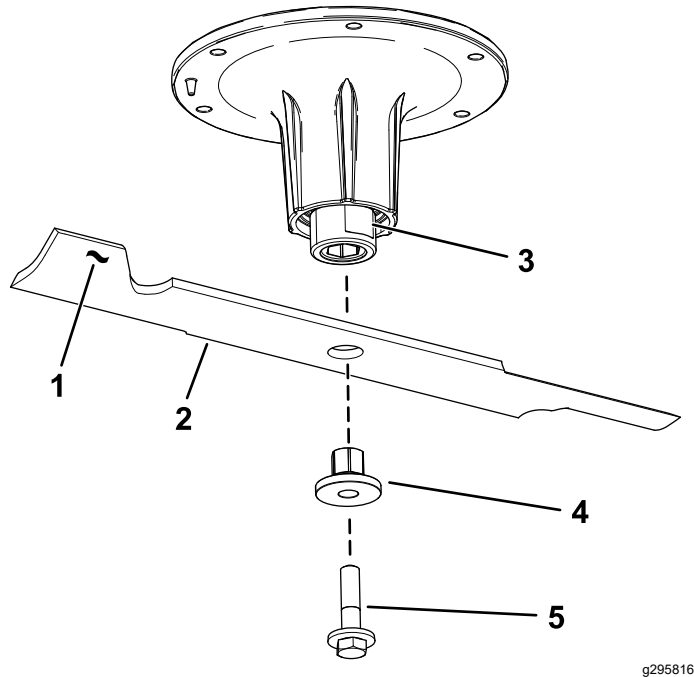

**Figure 76**
2. Remove the blade bolt, bushing, and blade from the spindle shaft (Figure 76).